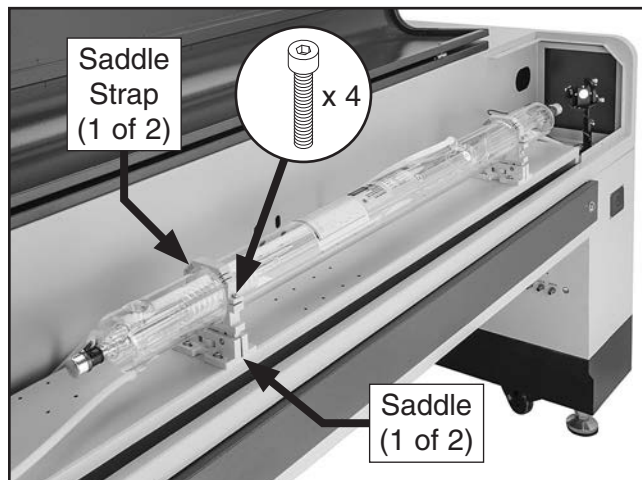

Figure 97. Laser tube saddle components.
10. Remove saddle-strap cap screws in an alternating pattern, and then remove saddle straps (see **Figure 97**).